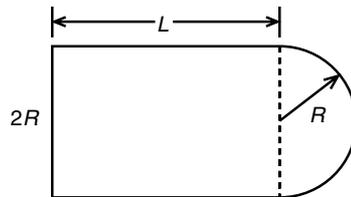

Figure P13
13. A fenced enclosure consists of a rectangle of length  $L$  and width  $2R$  and a semicircle of radius  $R$ , as shown in Figure P13. The enclosure is to be built to have an area  $A$  of  $2000$  ft2. The cost of the fence is \$50 per foot for the curved portion and \$40 per foot for the straight sides. Use the `fminbnd` function to determine with a resolution of  $0.01$  ft the values of